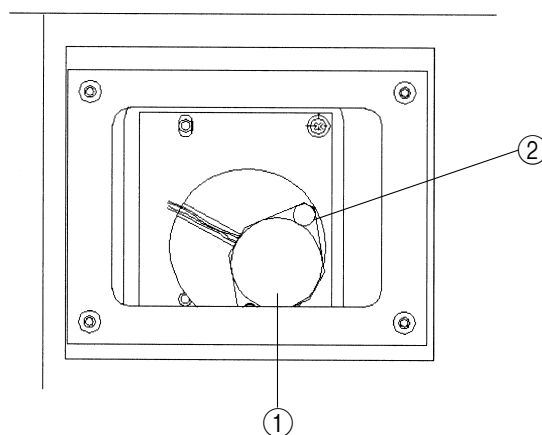

Fig. 4.4 Light Source
- 3) When the lid for replacing the light source is opened, the infrared light source assembly ((1) in the figure 4.4) can be seen. Loosen the long screw ((2) in the figure 4.4) which fixes the infrared light source assembly until the infrared light source assembly can be moved. (Do not remove only this long screw.)